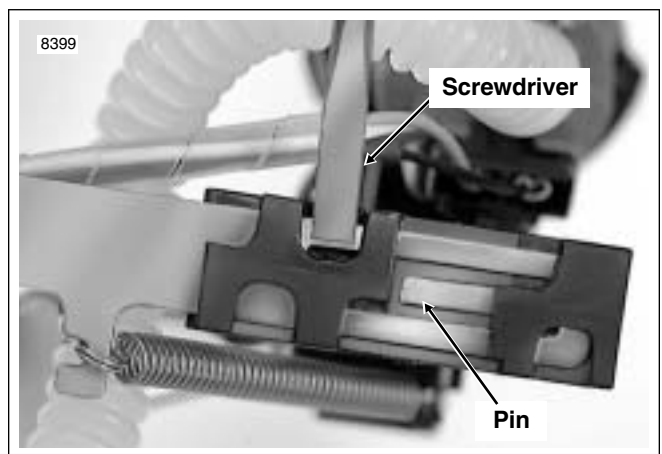

Figure 9-21. Either Crack Webbing or Depress Pin to Remove Hinge From Support Arm
- a. Insert flat tip screwdriver at location shown in Figure 9-21. Carefully crack plastic webbing at top of hinge and remove from support arm. Discard fuel pump and bracket assembly.
- b. Using the tip of a needle nose pliers, depress pin and slide hinge off end of support arm. See Figure 9-21.